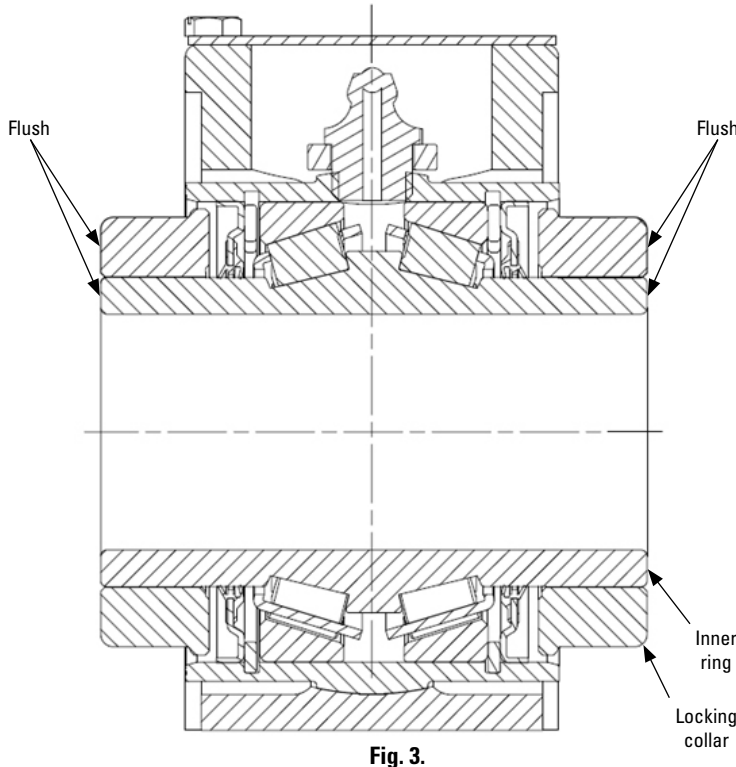
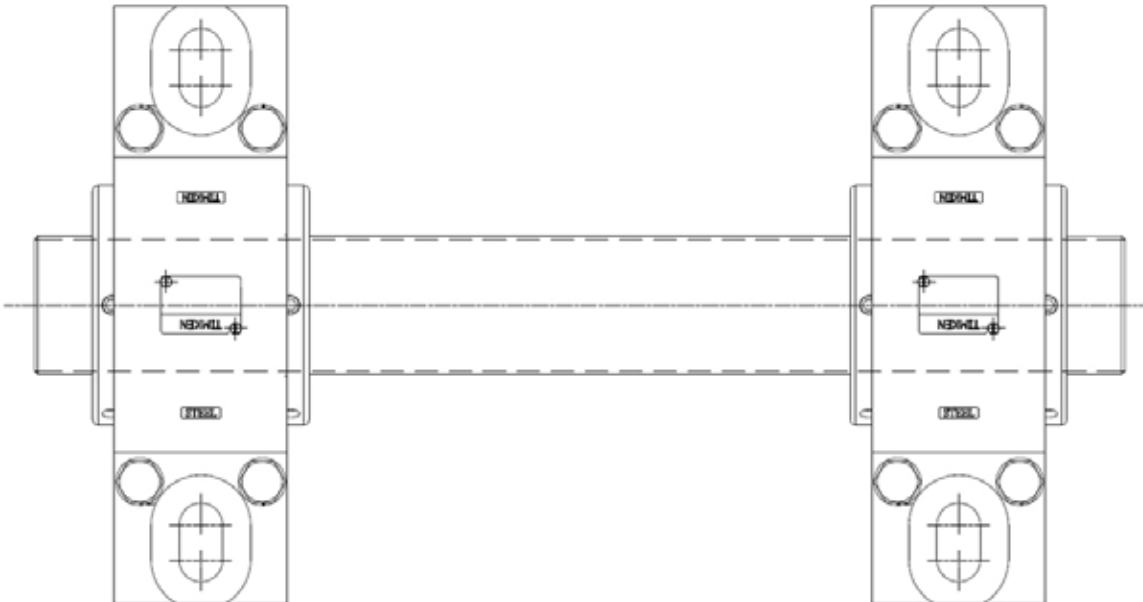

Fig. 3.
Fig. 4. Line up set screws in multiple units.
5. Verify the alignment of the fixed (non-expansion) unit. Rotating the bearing by hand without the cap bolts tightened down will help the bearing to accurately align. If it's not possible to rotate by hand - and it's safe to do so - run under power for a short time. Tighten the housing cap bolts to the torque specified in Table 3. Then ensure that the locking collars are lined up flush with the end of the cone (inner ring) face (Fig. 3). Set screws then need to be properly tightened per Table 2 using a cross pattern. Set screws in multiple units should be aligned to each other (Fig. 4).
6. Locate the first float (expansion) unit closest to fixed bearing and begin setting and locking expansion bearings from closest to fixed out. Locate the cartridge of the expansion unit in the center of its axial travel or at extreme if maximum expansion is required (do not preload anti-rotation washer/grease fitting against the access slot in the top of the housing). Verify the alignment of the unit. Rotating the bearing by hand without the cap bolts tightened down will help the bearing to accurately align. If it's not possible to rotate by hand - and it is safe to do so - run the unit for a short time. Tighten the cap bolts to the torque specified in Table 3. Then ensure that the locking collars are lined up flush with the end of the cone (inner ring) face (Fig. 3). Set screws then need to be properly tightened per Table 2 using a cross pattern. Set screws in multiple units should be aligned to each other (Fig. 4). Then move to the next float (expansion) bearing in line and repeat step 6.